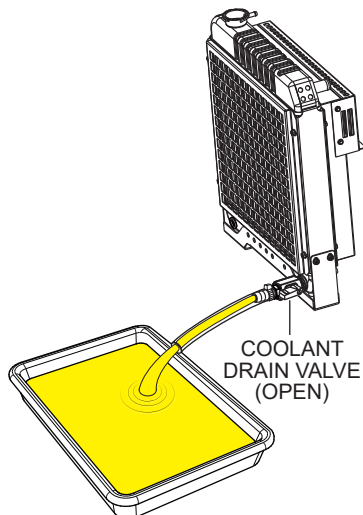

Figure 70. Draining The Engine Coolant
2. Open the cabinet door and place the coolant drain valve in the **OPEN** position (Figure 70) and allow the coolant to drain into a suitable container.